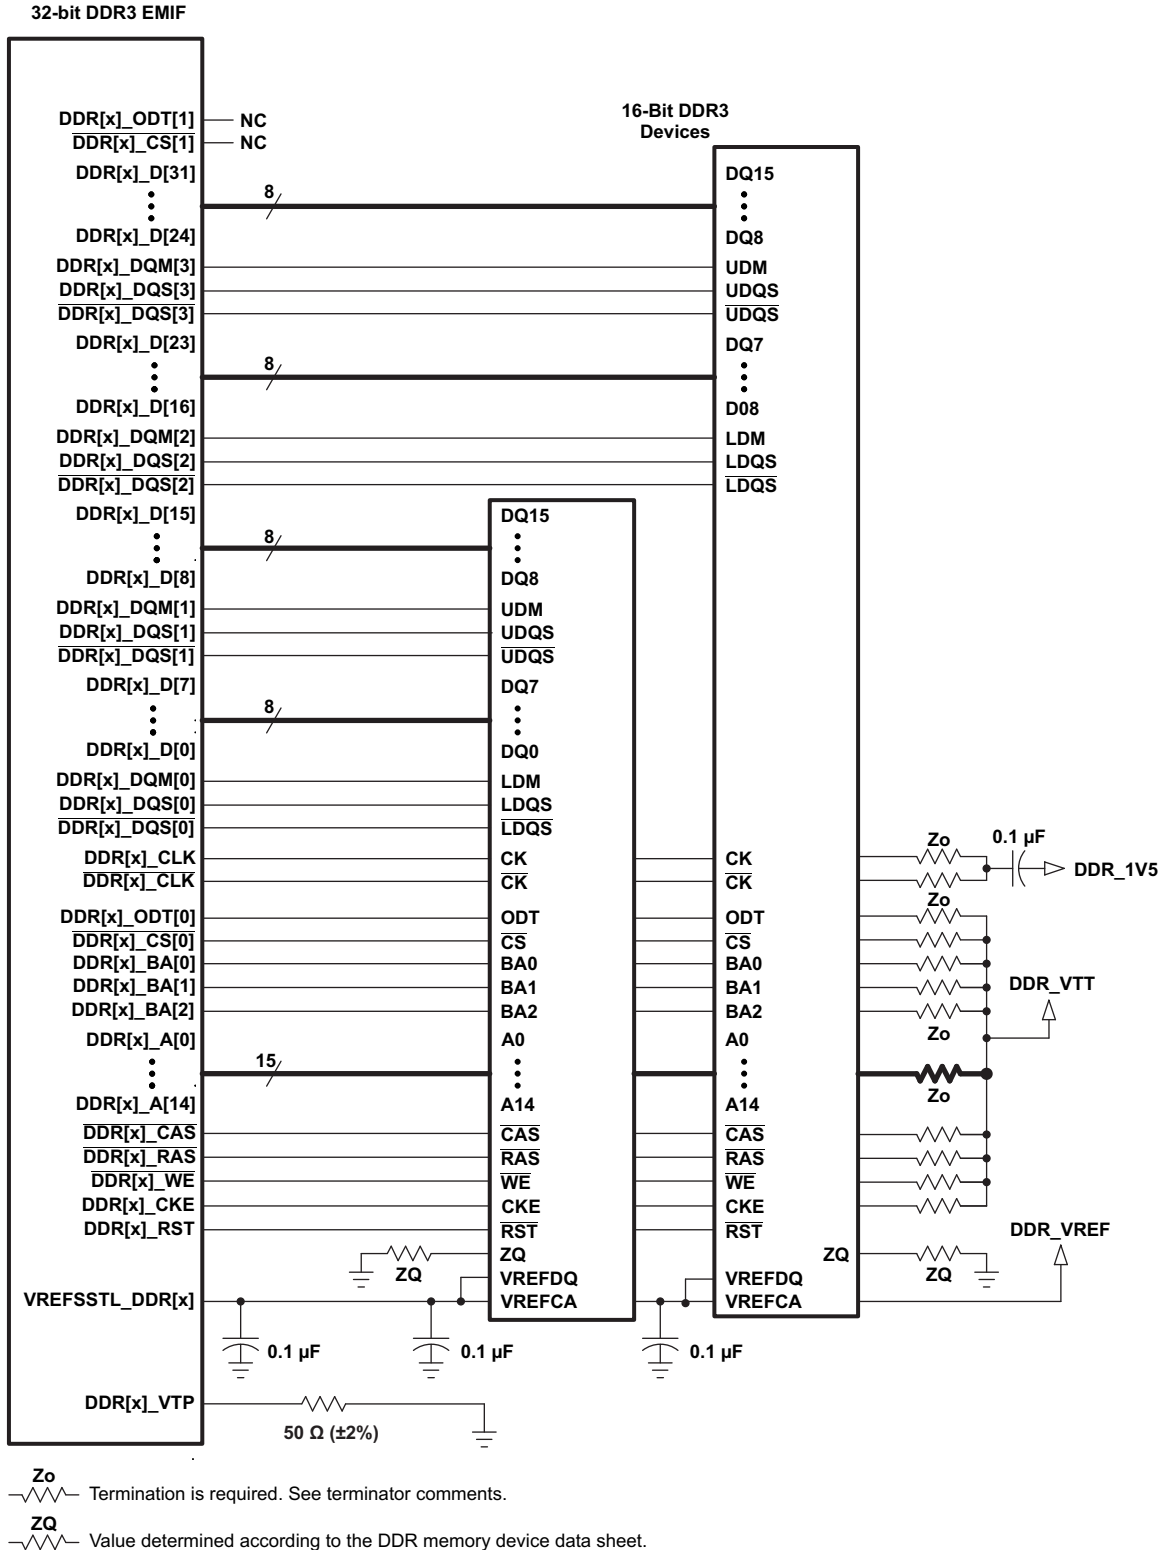

Figure 9-54. 32-Bit, One-Bank DDR3 Interface Schematic Using Two 16-Bit DDR3 Devices
The DDR3 interface schematic varies, depending upon the width of the DDR3 devices used and the width of the bus used (16 or 32 bits). General connectivity is straightforward and very similar. 16-bit DDR devices look like two 8-bit devices. Figure 9-54 and Figure 9-55 show the schematic connections for 32-bit interfaces using x16 and x8 devices.
(1) DDR3 speed grade depends on desired clock rate. Data rate is 2x the clock rate. For DDR3-800, the clock rate is 400 MHz.
(2) DDR3 devices with speed grades up to DDR3-1600 are supported; however, max clock rate will still be limited to 533 MHz as stated in *Switching Characteristics Over Recommended Operating Conditions for DDR3 Memory Controller*.
(3) For valid DDR3 device configurations and device counts, see Section 9.13.4.2.4, Figure 9-54, and Figure 9-55.